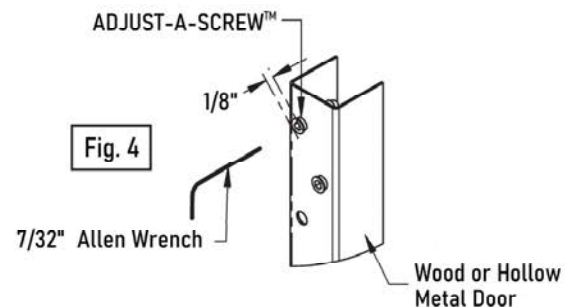

Fig. 4
3. Place a 7/32" Allen wrench in opening of Adjust-A-Screw and turn Adjust-A-Screw into hole while keeping screw properly aligned (Fig 4).
4. Place a 7/32" Allen wrench in opening of Adjust-A-Screw and turn Adjust-A-Screw into hole while keeping screw properly aligned (Fig 4).